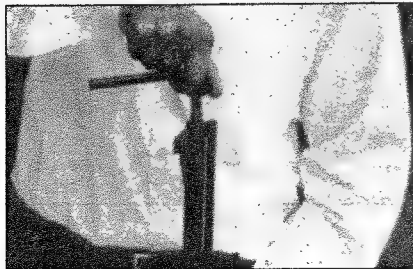

Figure 5
- c. Use short end of bullet starter to press bullet just into muzzle. (See Figure 5).